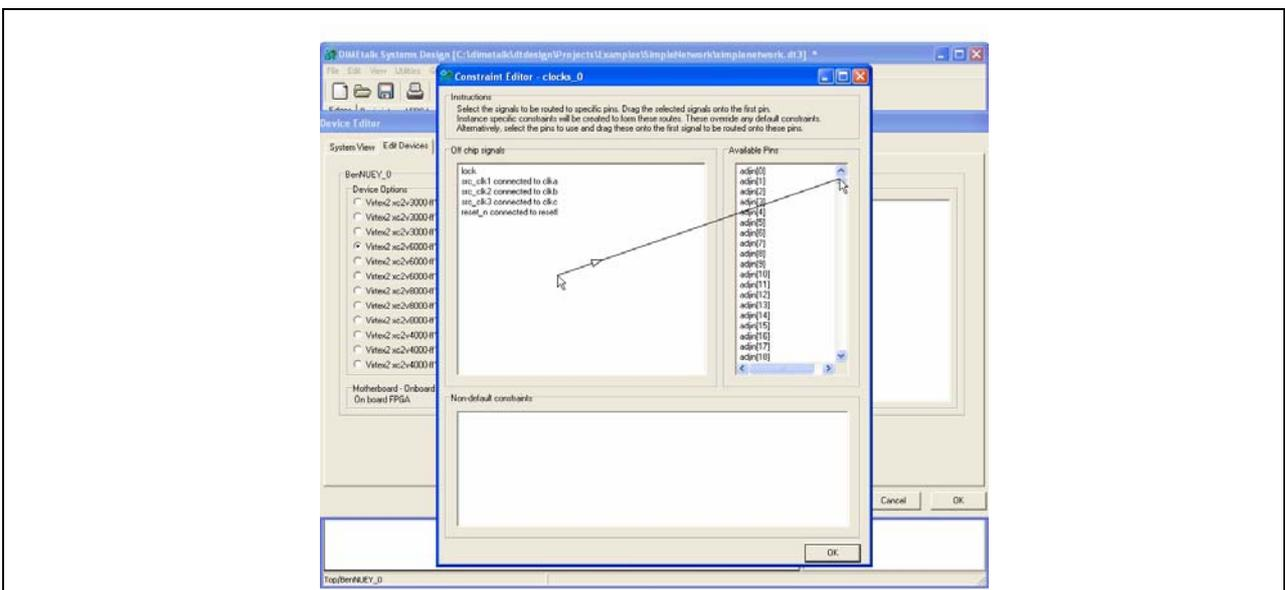

Figure 46: Constraint Editor
4. Double-click on the 'clocks_0' component to bring up the Constraint Editor, Figure 46, which shows five signals coming from the component to external pins. Four of these - three clocks and a reset - are already assigned to appropriate physical pins whilst the 'lock' signal is unassigned.